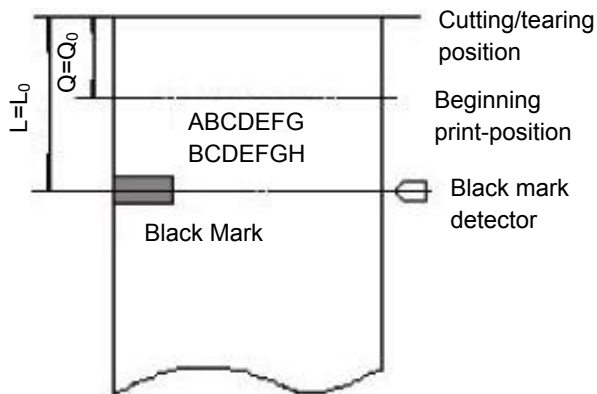

Figure 7-2
1. When the distance L between the cutting/tearing position and the black mark position is the same with the inherent mechanical value L_0 of the printer, and the distance Q between the cutting/tearing position and the beginning print-position is the same with the inherent mechanical value Q_0 of the printer (shown as figure 7-2), all the offset value set by "GS (F" command is 0.